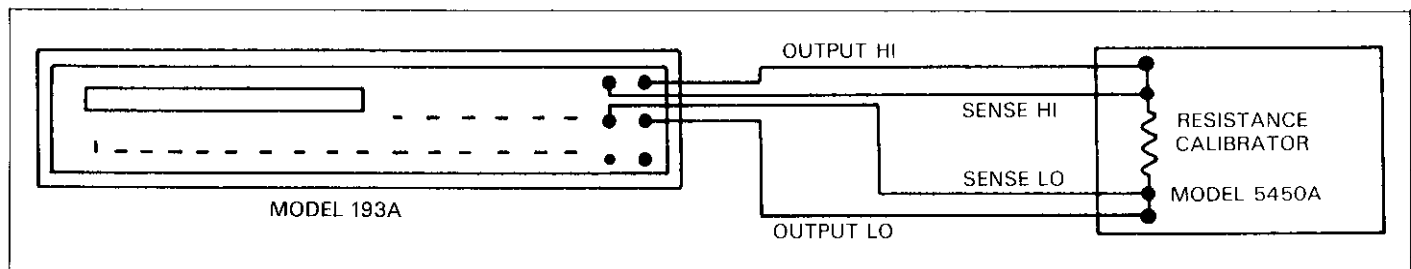

Figure 4-4. Connections for Ohms Verification (200Ω-20kΩ Range)
2. Using Kelvin test leads (such as the Keithley Model 1641) connect the resistance calibrator to the Model 193A as shown in Figure 4-4.
6. Utilizing Figures 4-4 and 4-5, check the 2kΩ through 200MΩ ranges by applying the respective resistance levels listed in Table 4-4. Verify that the readings are within the limits listed in the table.